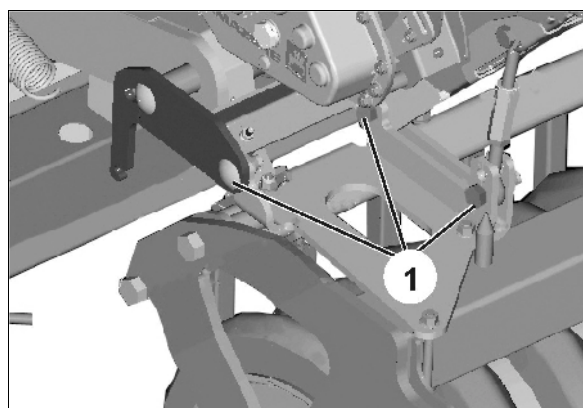

Fig. 27
- 5.2 Right: Install the 3 screw connections (Fig. 27/1).